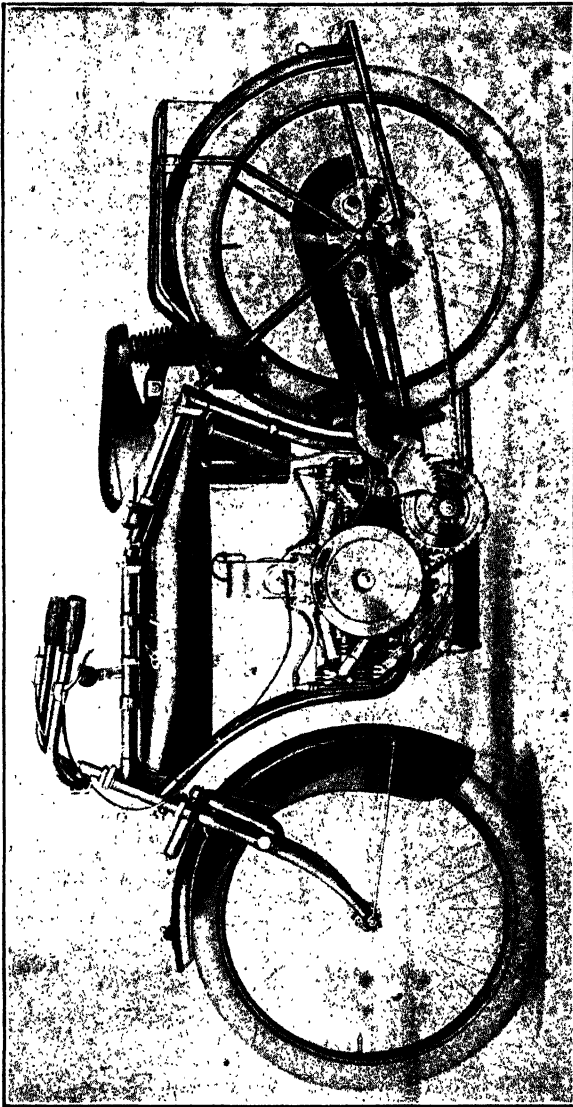

Fig. 10. Indian Two-Cylinder Opposed Light-Weight Motorcycle
**Indian.** Of the two-cylinder opposed chains the Indian Light Twin, Fig. 10, is among the most interesting. The cylinders lie fore-